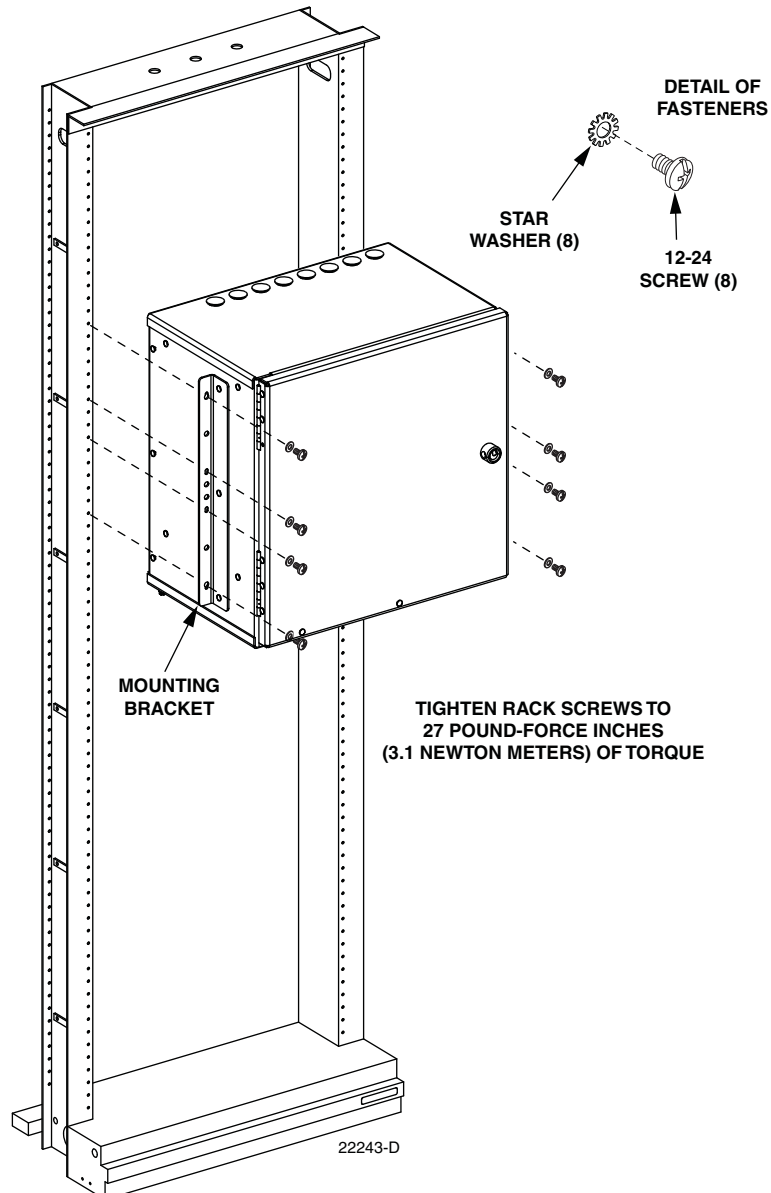

Figure 5. Placement of Cabinet in Equipment Rack
8. Place the cabinet in the specified mounting space within the equipment rack as shown in Figure 5.
9. Secure the cabinet to the rack using the screws and washers (see Figure 5) provided. Tighten each screw to 27 pound-force inches (3.1 Newton-meters) of torque.